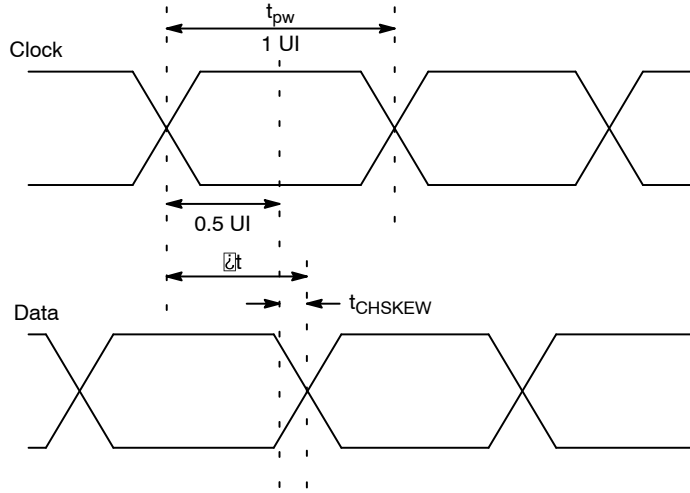

Figure 11. Clock-to-Data Skew Timing Diagram
3. Mean Clock-to-Data skew should be measured from the 0V crossing point on Clock to the 0V crossing point on any Data channel regardless of edge, as shown in Figure 11. This time is compared with the ideal Data transition point of 0.5UI with the difference being the Clock-to-Data Skew (see Equation 7)